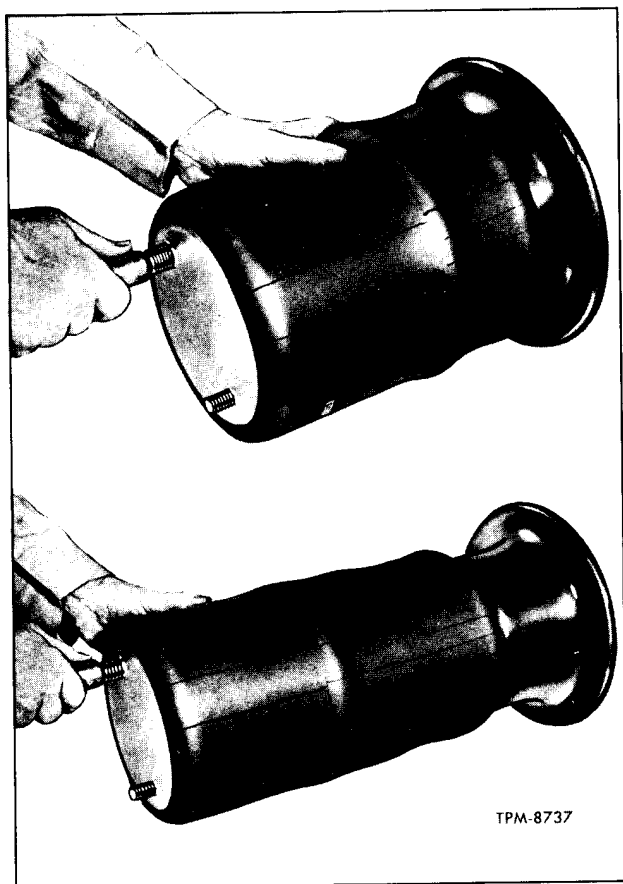

Figure 15—Removing Bellows Loop With Air Pressure
1. With bellows assembly on bench, apply air through hollow fitting in upper retainer (fig. 15) until loop or fold is removed and bellows is straight.